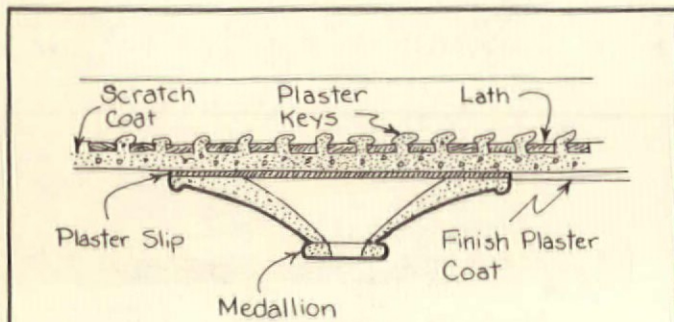

Fig. 1--Medallion is held to plaster scratch coat with a thin plaster of paris "slip" that serves as a glue.
**N**O UNDERSTAND how to remove a medallion, it helps to know how it was put up in the first place. (See Fig. 1.) Plaster medallions were generally put in place while the first or "scratch coat" of ceiling plaster was still damp. The medallion was simply glued to the scratch coat; the "glue" used was a thin "slip" of plaster of paris. Once this was set up, the finish coat of plaster was applied to the ceiling, butting right up to the medallion.